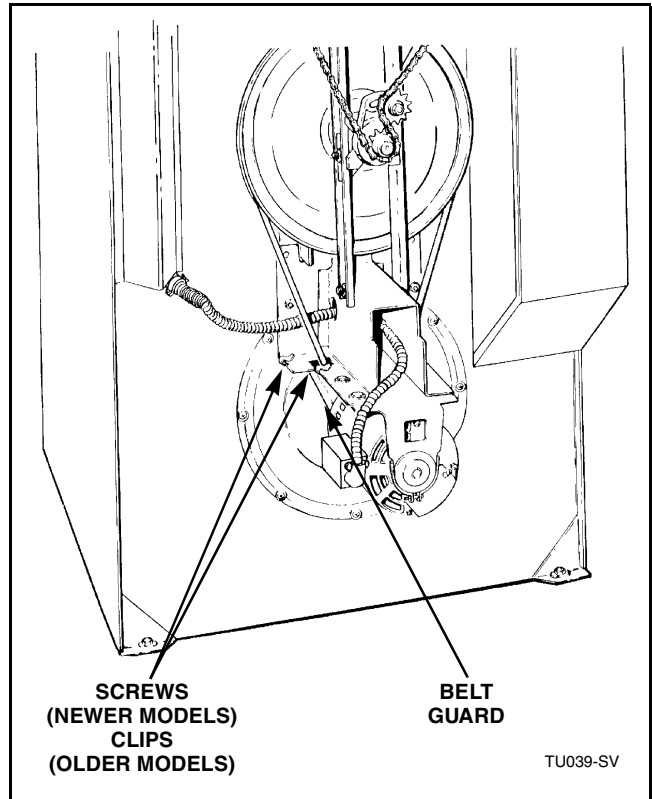

Figure 39
- b. Remove four clips (older models) or two screws (newer models) holding belt guard assembly to motor bracket, Refer to *Figure 39*.